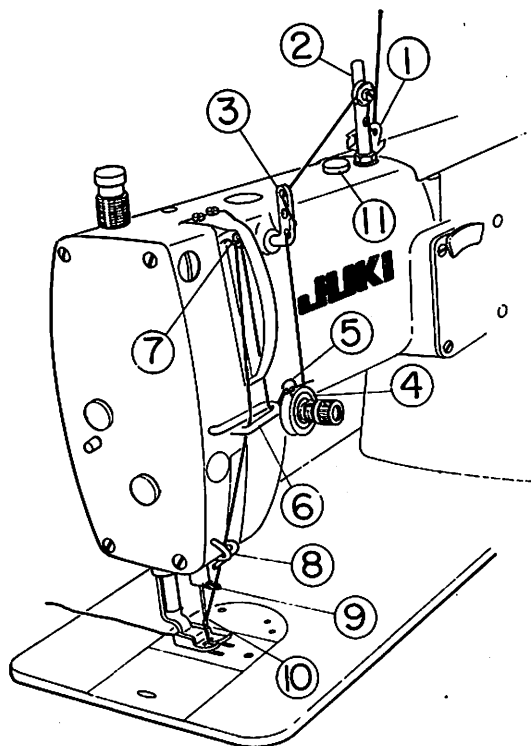
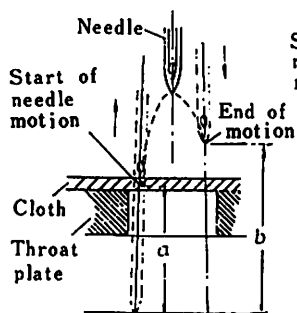

Fig. 5
Fig. 13
## 6. Threading the machine (Fig. 5)
Pass the needle thread in the order of ①~⑩ as shown in Fig. 5. After the threading is completed, pull out the tip of the passed thread about 10cm (about 4").
The relationship between the needle and the sewing hook is as shown in Fig. 13~16.
To determine the position of the needle throw, remove the cap (Fig. 5 ②) near the arm thread guide bar, loosen the set screw of the bevel gear of the main shaft, and as you watch the needle drop, adjust the position by slowly sliding the position of the gear and at the correct position of the needle throw, tighten the set screw of the gear securely. (Fig. 13, 14, 15, 16).